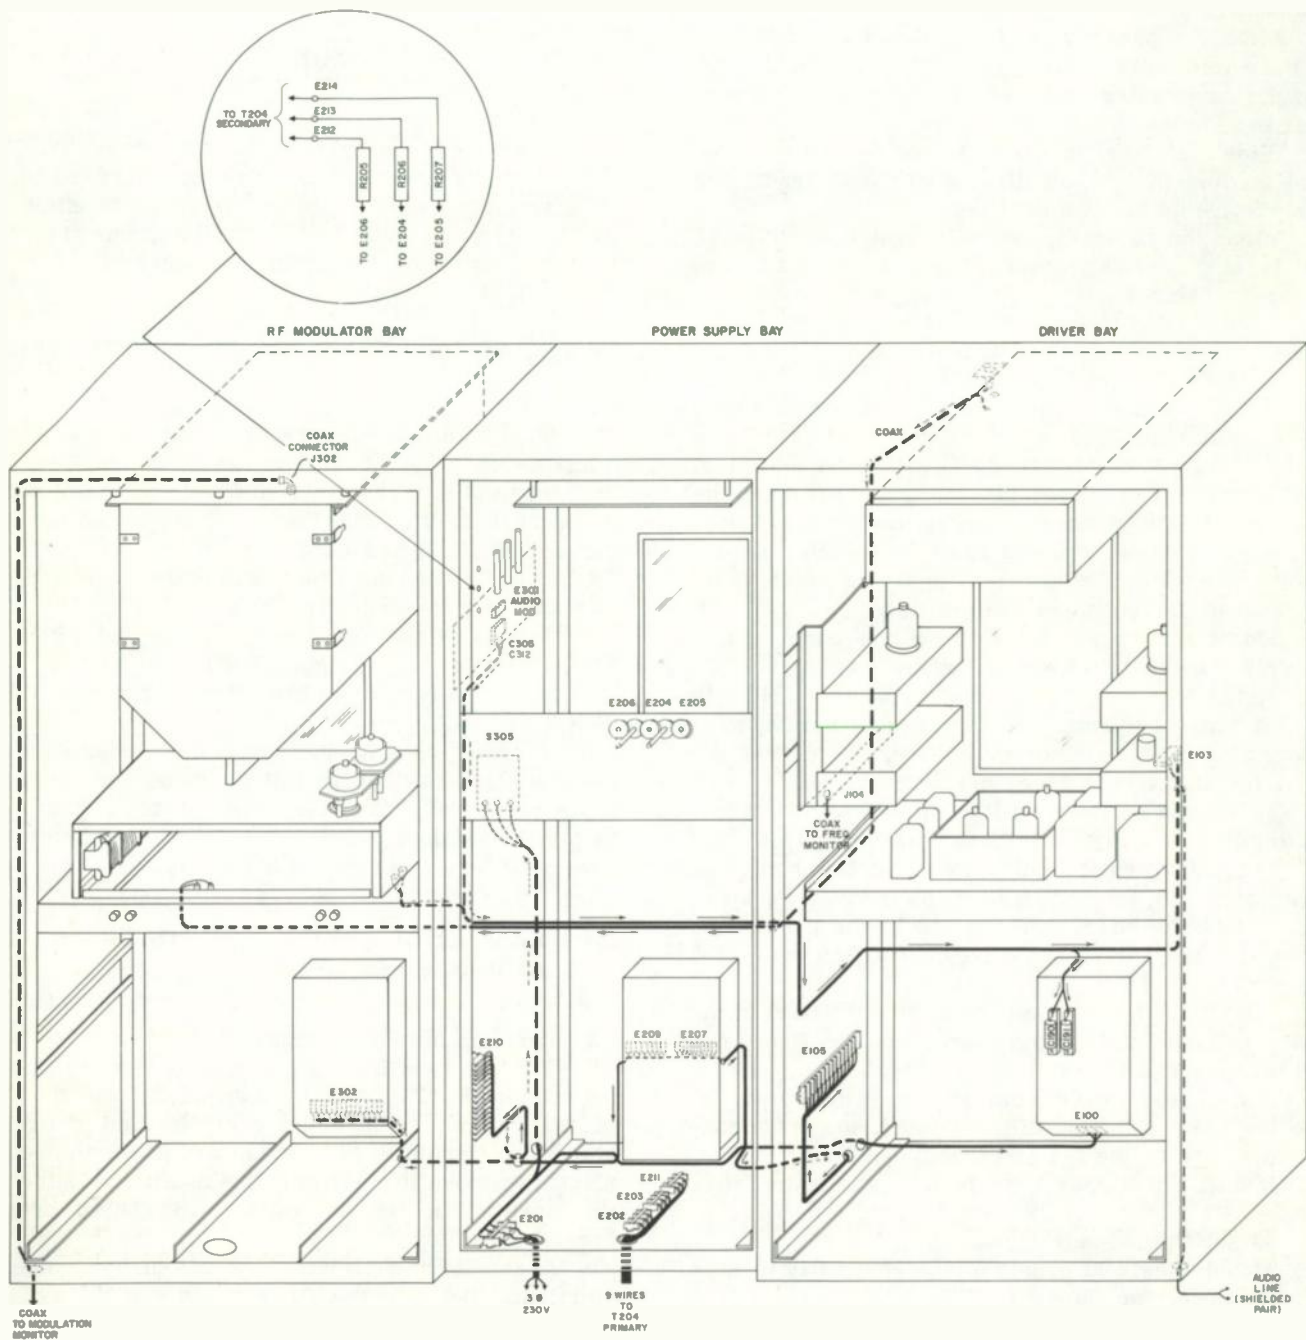

Figure 2-2. Cabling Details
power wires and ground wire through the base holes progressively as the power cabinet frame is shoved into position. See figure 2-2.
e. Feed the interconnecting cables from the power cabinet through the side-walls of the amplifier and driver cabinets. See figure 2-2.
d. Install and connect the audio compensating board as shown in figures 2-2 and 6-2.
f. Install surge resistors R205, R206, and R207. (See figure 2-2.)
n. Make all other base connections at this time. See figures 2-2 and 7-5.
i. Complete all internal connections, including interchassis cables and connections, to terminal boards E101 and E102 on the rear of the low voltage power shelf. Refer to installation connections diagram figure 2-2, to interunit cable diagram figure 7-3, and to tags on the wires for assistance in making the proper connections.
Nine wires connect the high voltage power transformer T204 to connector blocks E202, E203, and E211. See figure 2-2. These wires enter the power cabinet through
the right-hand 1-1/2-inch grommet. Cut these to length, and connect them to their terminations with solder lugs. Be very careful to observe correct phasing here. See cabling schematic, figure 7-4, and pictorial diagram, figures 2-2 and 2-3, for proper transformer connections. Incorrect phasing will result in shortened rectifier tube life.
Coaxial frequency monitor connector J104 is located on the bottom of the r-f chassis as shown in figure 2-2. The transmitter is shipped with a mating plug connected to J104. Bring a piece of RG-8/U coaxial cable through the proper hole in the floor of the cabinet as shown in figure 2-1. Connect the coax to the plug associated with connector J104.
Coaxial modulation monitor connector J302 is supplied with the proper mating plug. Figure 2-2 shows this connector located on the top of the r-f output network box. Thread a piece of RG-8/U coaxial cable through the proper hole in the floor of the cabinet as shown in figure 2-2. Connect the coax to the plug associated with connector J302.